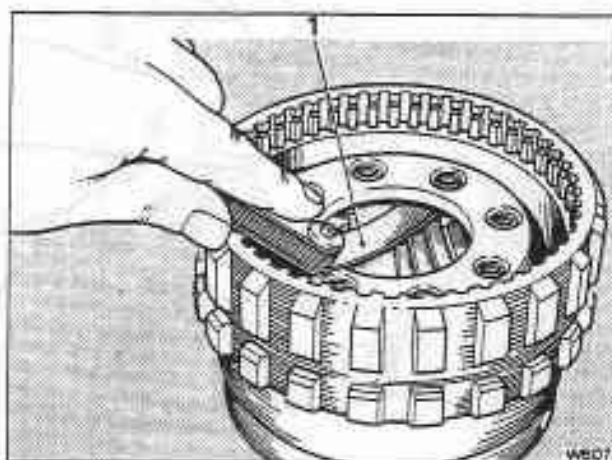

Fig. T20-11 Checking the output carrier pinion end-float
4. Check the end-float of the pinions with the aid of a feeler gauge (see fig. T20-11). The end-float should be between 0,23 mm and 0,61 mm (0.009 in and 0.024 in).